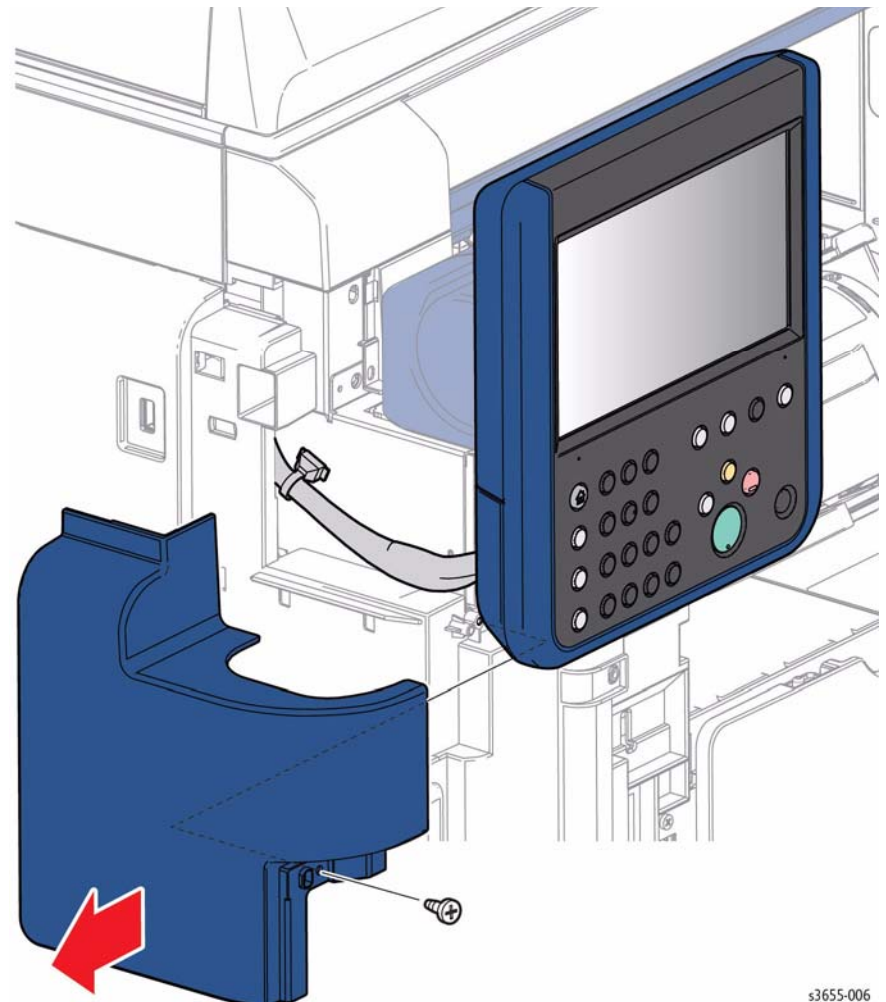

Figure 1 Remove the Left UI Base Cover
2. Refer to Figure 1 to locate and remove 1 screw (silver, M3, 6mm) to remove the cover.